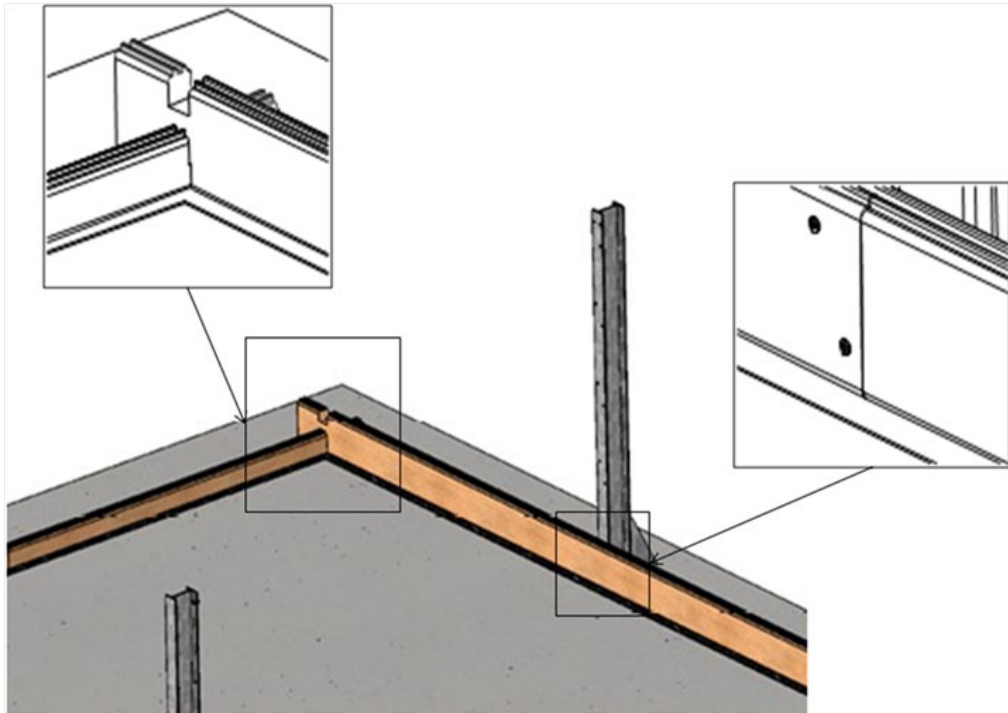

Figure 10 – Screwing the slats together
- referring to Figure 10, screw the slats together using 2 screws per pair of slats in each of the 10 rows, that is 80 countersunk screws 5 × 40 A4 SS torx threaded over 25 mm (bag C) ;